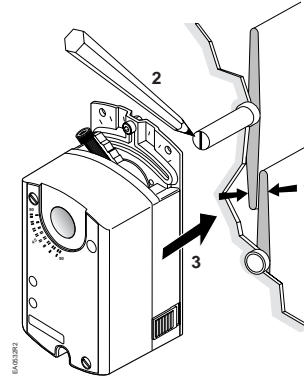

Figure 6. Mounting Actuator to Damper Shaft.
NOTE: The GDE/GLB actuator comes with a factory installed 1/2-inch shaft guide. If shaft size is 1/2-inch, proceed with Figure 6.
3. Proceed to Figure 6.
2. Mount actuator to shaft per Figure 6.